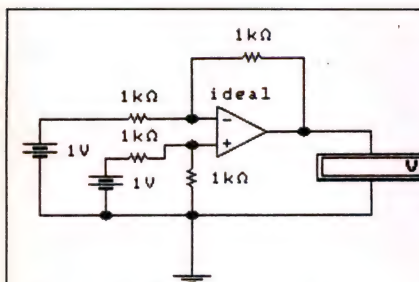

Fig. 5.14 Differential amplifier circuit (Assignment 5.1).
- Connect the differential amplifier circuit shown in Fig. 5.14. Check that all resistors are $1\text{k}\Omega$ and that the batteries are connected in a sense that will produce an input of $+1\text{V}$ at both the inverting and non-inverting inputs.